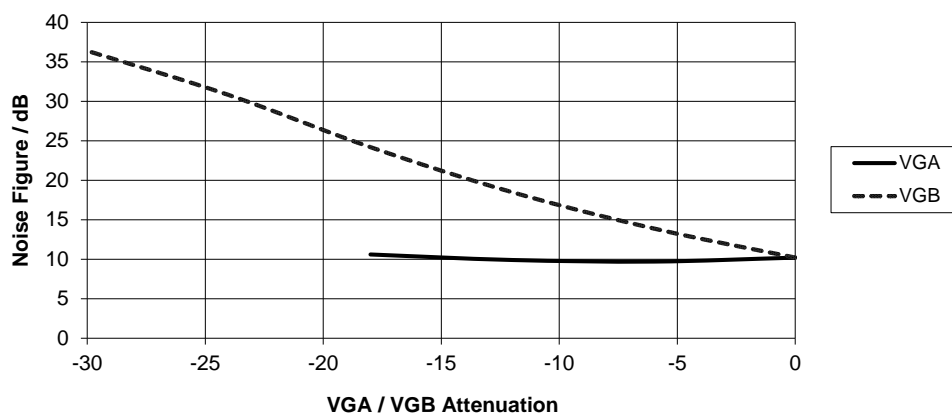
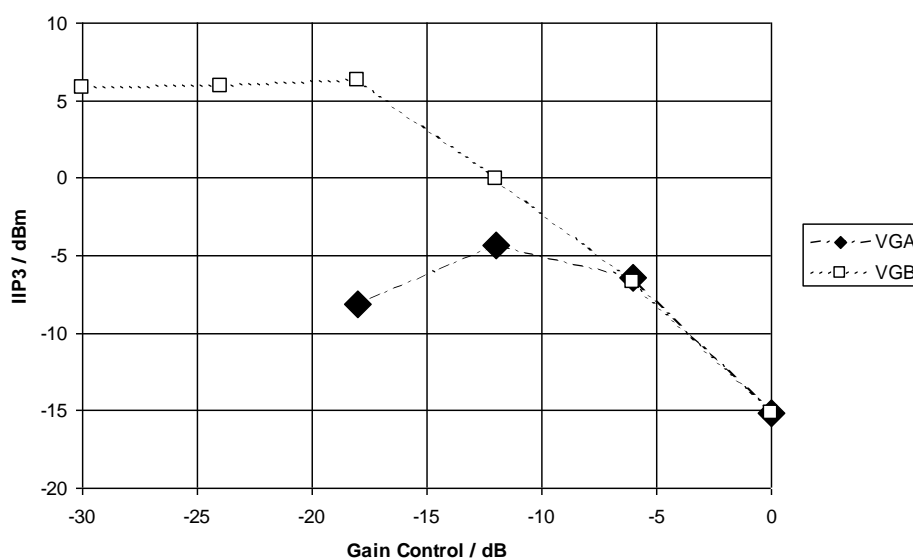

Figure 18 Variation in CMX973 Demodulator Noise Figure with VGA/VGB Control
Figure 19 Variation in Input Third Order Intercept Point with VGA/VGB Control
The control of gain using VGA and VGB has an impact on the performance of the CMX973 demodulator section. The variation in noise figure (NF) is straightforward, with the RF/IF gain control (VGB) having a direct impact on NF but, due to the gain before the I/Q section, VGA has little impact on NF (see Figure 18). The variation of intermodulation (IMD) is more complex, as shown in Figure 19, where performance is characterised by 'Input Third Order Intercept Point' (IIP3). At maximum gain IIP3 is at a minimum and as would be expected, the IIP3 increases as the RF/IF gain is reduced (VGB). The improvement plateaus beyond the -18dB gain setting as the input stages limit performance at this level. Reduction in gain with VGA (I/Q gain control) also has a positive effect on IIP3. This is perhaps less intuitive but indicates that the intermodulation performance of the CMX973 demodulator chain is dominated by the output stages rather than RF/IF or mixer stages. Thus -6dB or even -12dB VGA gain control settings can be used to achieve improved IMD performance for negligible change in noise figure (Figure 18), as long as the reduction in gain can be tolerated.